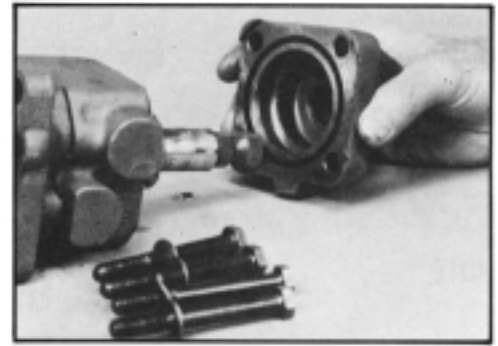

Figure 70
25. Remove the four loosened upper cover bolts (6), washers (6A) and the upper cover (7) assembly. SEE FIGURE 70. Discard seal ring (8).